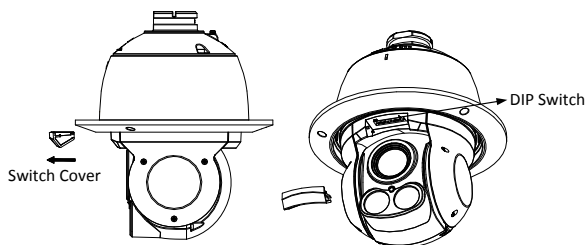

Figure 1-7 DIP Switch of Mini IR Speed Dome
1. Remove the switch cover as shown in Figure 1-7(left).